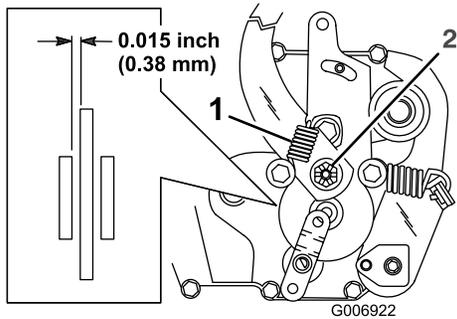

Figure 43
The parking brake is on the right side of the rear axle, inside the rear tyre (Figure 43). If the parking brake does not hold securely, adjust it.
2. Remove the brake arm spring (Figure 43).
3. Remove the cotter pin that secures the brake adjusting nut and slightly loosen the nut (Figure 43).
4. Insert a 0.015 inch (0.38 mm) feeler gauge between the brake disc and brake puck (Figure 43).